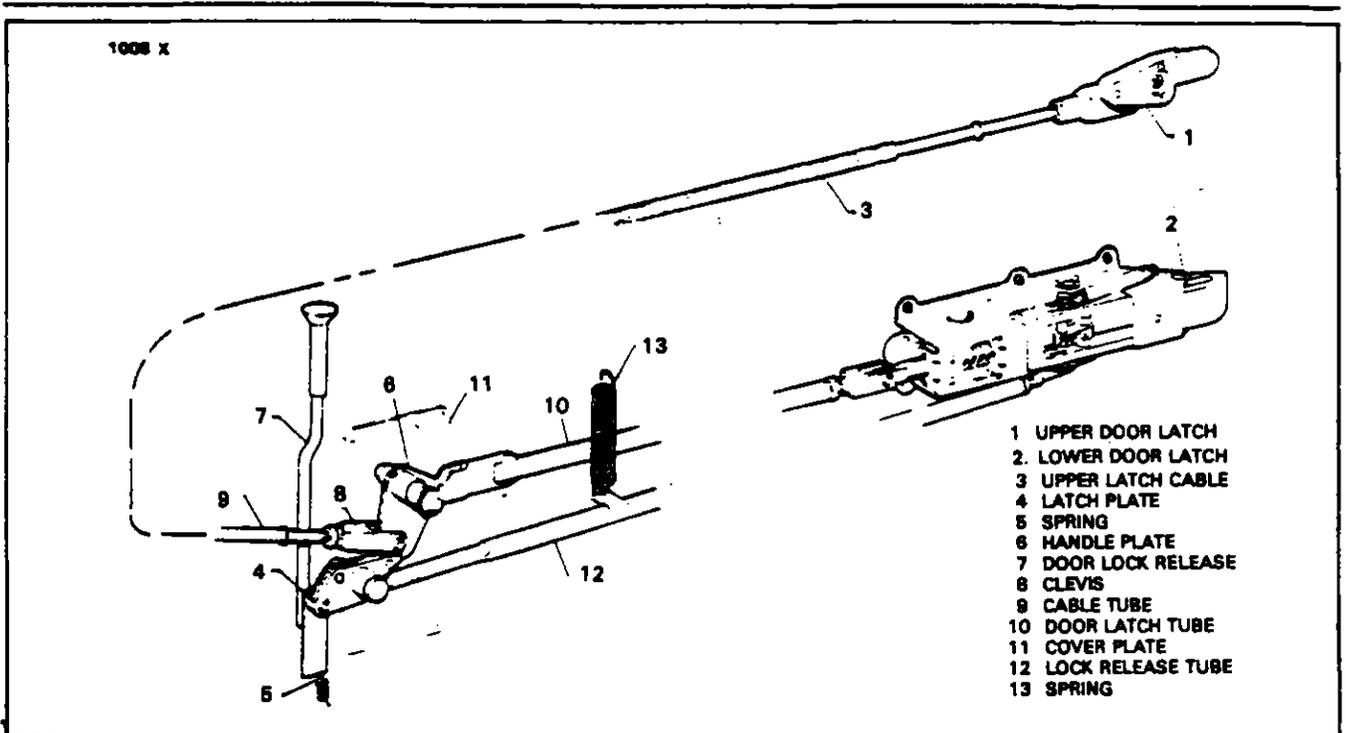

FIGURE 4-7. DOOR LOCKING MECHANISM
4-41. Installation And Adjustment Of Door Locking Mechanism. (PA-24-250, Serial Nos. 24-3285 and up, PA-24-260 and PA-24-400) (Refer to Figure 4-7.)
- a. Install the upper (1) and lower (2) latch assemblies.
- b. Install latch cable assembly (3) and connect the clevis rod end to the upper latch. Allow approximately three threads of the cable end exposed from the clevis, tighten the lock nut.
- c. Lubricate and install latch plate (4), door lock release (7) and latch spring (5).
- d. Lubricate and install the door handle shaft-plate assembly (6). With the latch plate in locked position, draw the door handle up and to the rear allowing the pawl of the handle-plate assembly (6) to catch the latch plate (4) as shown in Figure 4-7.